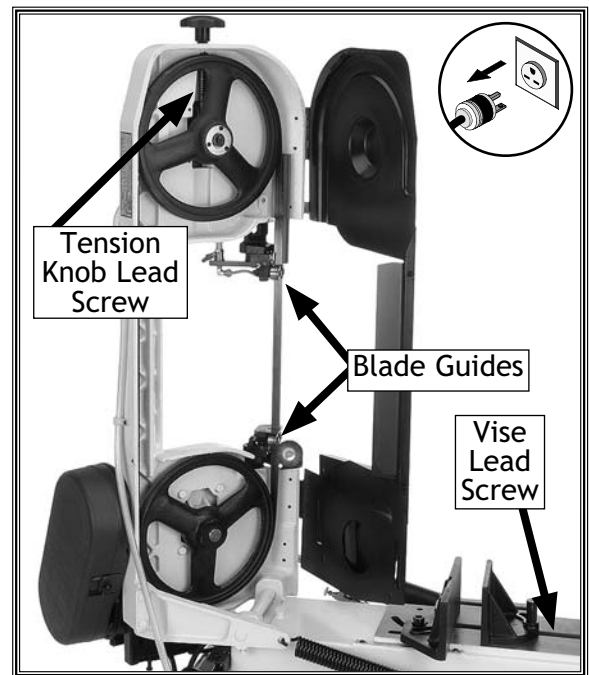

Figure 42. Main lubrication points.
- **Blade Tension Mechanism:** Open the main blade guard and drop a few drops of oil on the tension knob lead screw (see **Figure 42**).
- **Vise lead screw:** Drop a few drops of light machine oil on the vise lead screw weekly (see **Figure 42**).